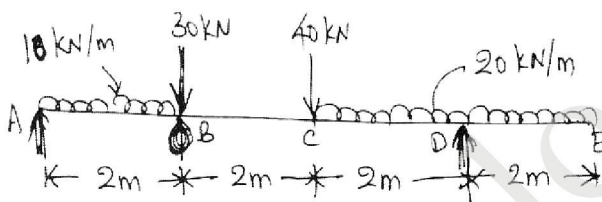

Fig.Q5(b)
- b. For the beam shown in Fig.Q5(b), draw the shear force and bending moment diagram and locate the point of contraflexure. (14 Marks)